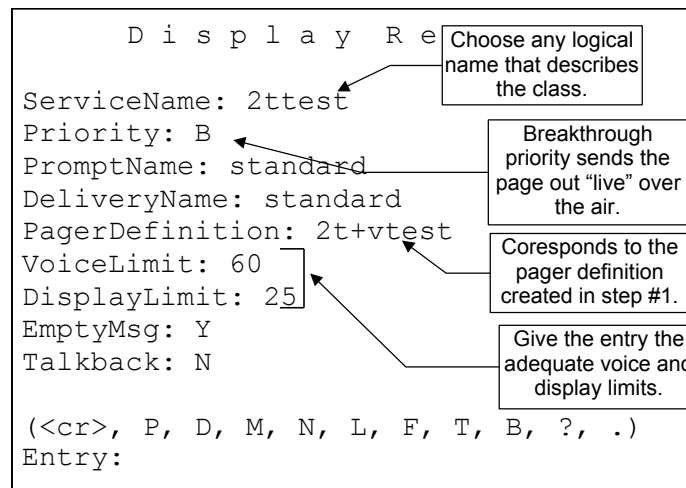

Figure 53. Model 640 Database 2-Tone Class of Service Record
- Fill in the record as shown in Figure 53.